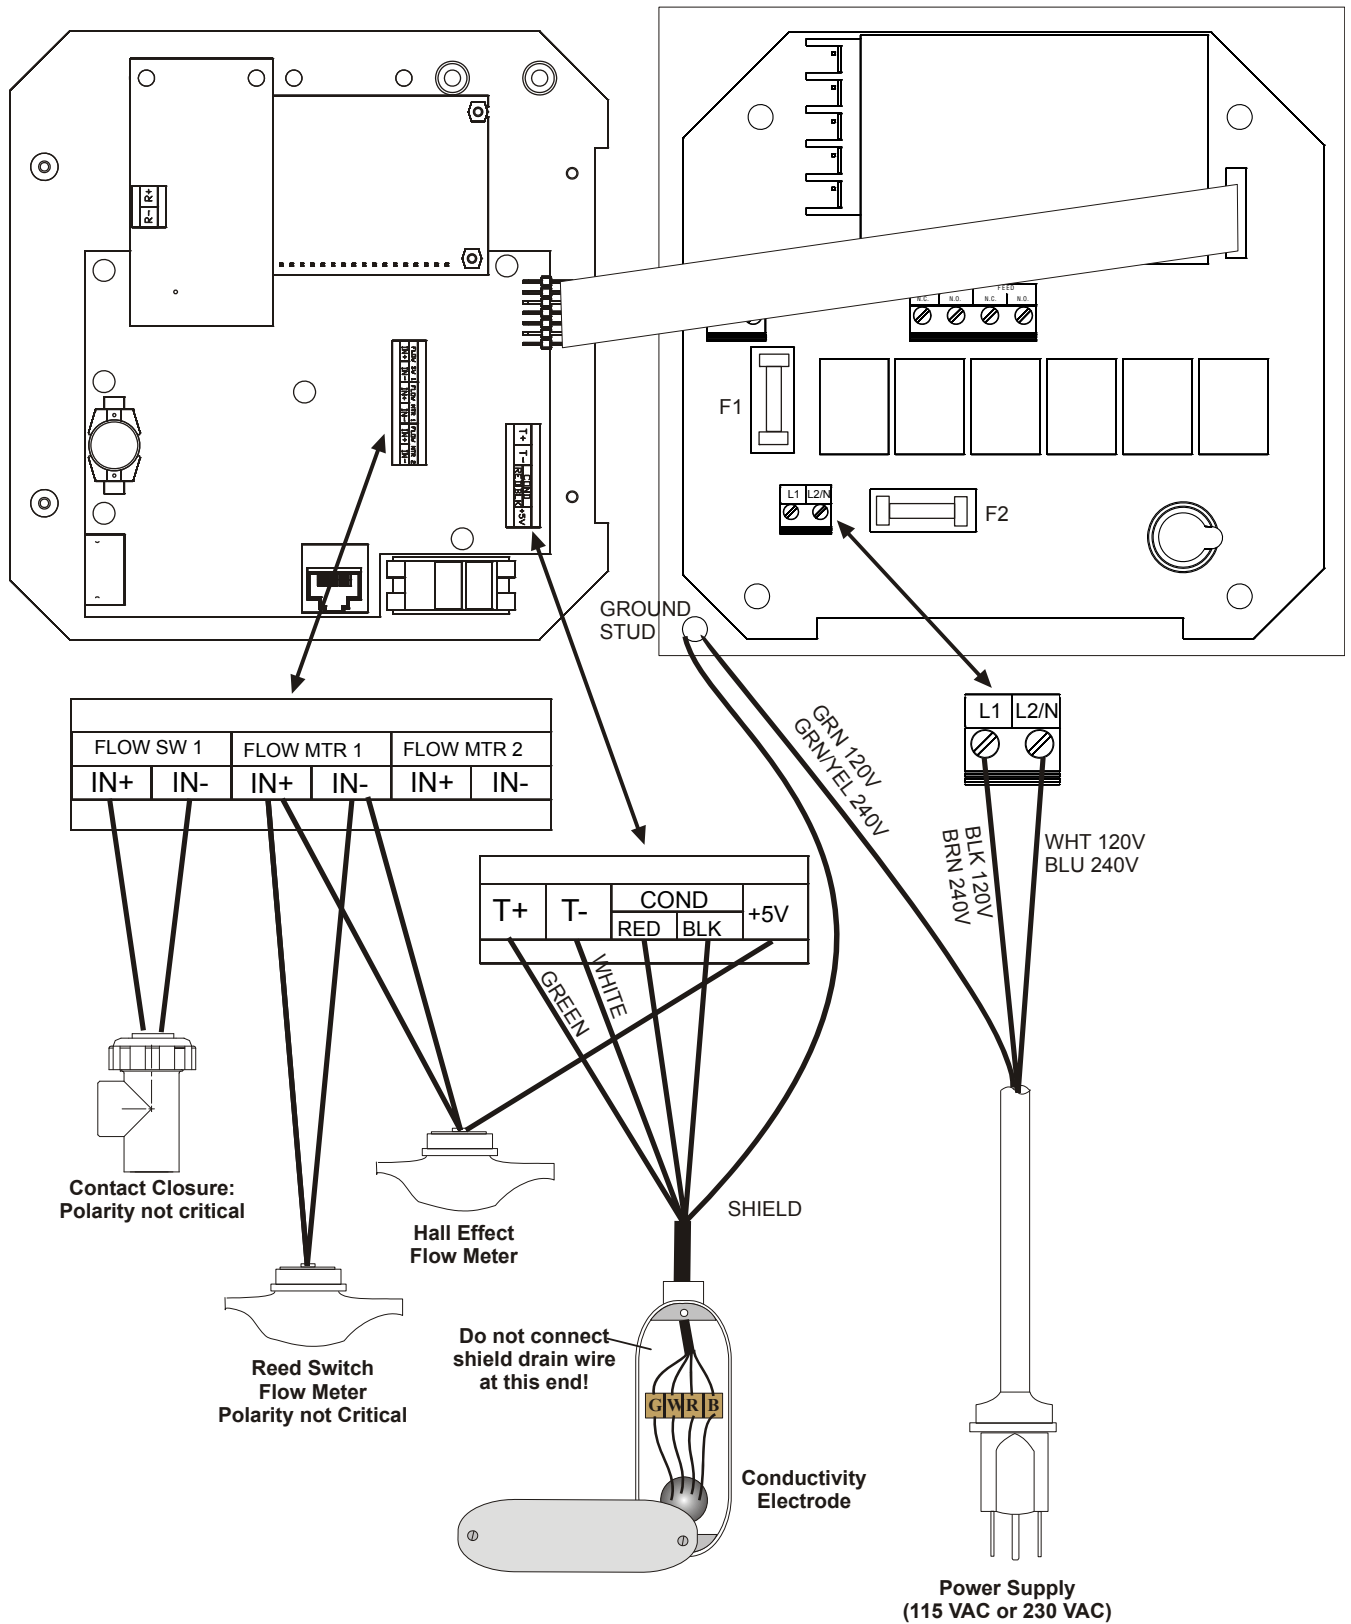

Figure 3 Inputs
The various standard wiring options are shown in figure 2. Your WBL series controller will arrive from the factory prewired or ready for hardwiring. Depending on your configuration of controller options, you may be required to hardwire some or all of the input/output devices. Refer to figures 3 and 4 for circuit board layout and wiring.
2. When wiring the optional flow meter contactor input, the 4-20 mA output or a remote flow switch, it is advisable to use stranded, shielded, twisted pair wire between 22-26 AWG. Shield should be terminated at the controller ground stud (see figures 3 and 4).